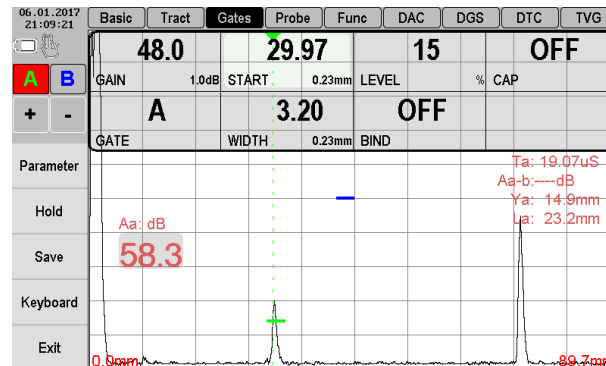

Figure 2.59 – Overlapping the gate on the reflected signal
3. Get the reflected echo-signal from the equivalent reflector and overlap A-gate on it (Fig. 2.59).